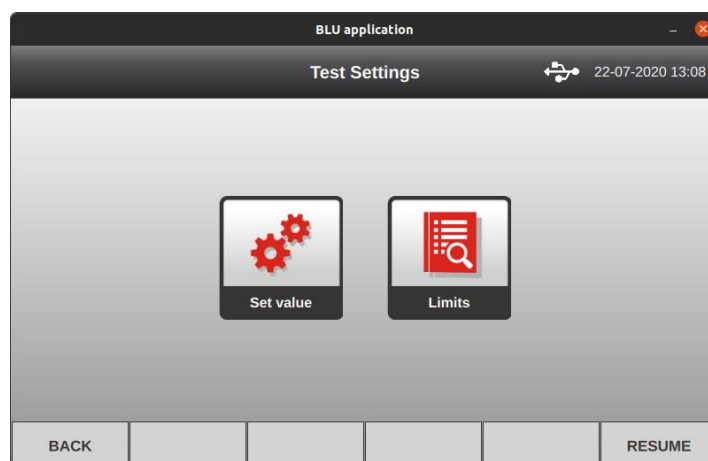

Figure 4-4: Test settings screen
- Time (00:00:10 on the Figure 4-4) – elapsed time from start of test,
- Voltage (10.9 [V] on the Figure 4-4) – current battery voltage,
- Current (5 [A] on the Figure 4-4) – selected discharge current,
- Measured capacity (0.0027 [Ah] on the Figure 4-4) – capacity measured from start of the test
The *Settings* button enables to modify current (or power or resistance, depending on type of test) and preset limits without interrupting the test. Pressing the *Settings* button, the screen presented on Figure 4-4 will be displayed.